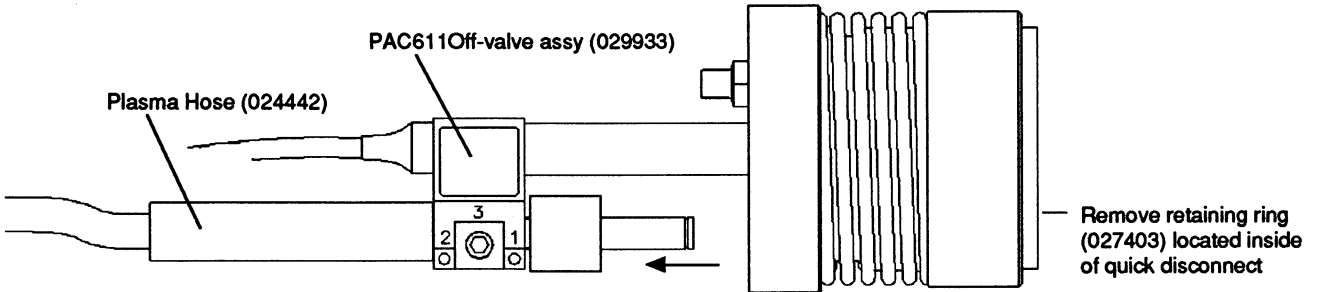

Figure 4 Removing Off-valve Assembly and Plasma Hose from Quick Disconnect Assembly
4. To remove plasma hose and off-valve assembly (029933), remove retaining ring (027403) from inside of quick disconnect assembly and pull out off-valve assembly. See Figure 4.